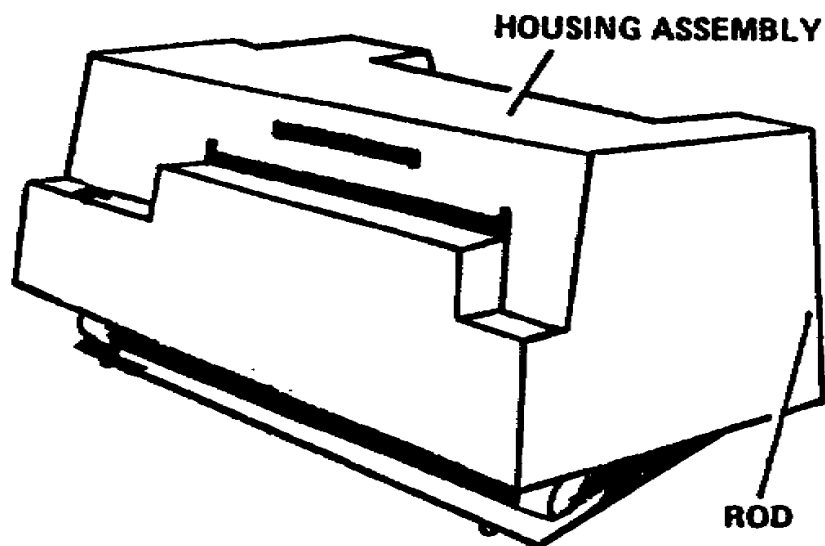

Figure 1-15. Housing Assembly
(5) Assemble the Housing Assembly (fig 1-15) on the processor by tilting the front upward and toward the rear of the processor, hooking the Rod under the two brackets fastened at the rear of the processor base and then lowering the front of the housing assembly.